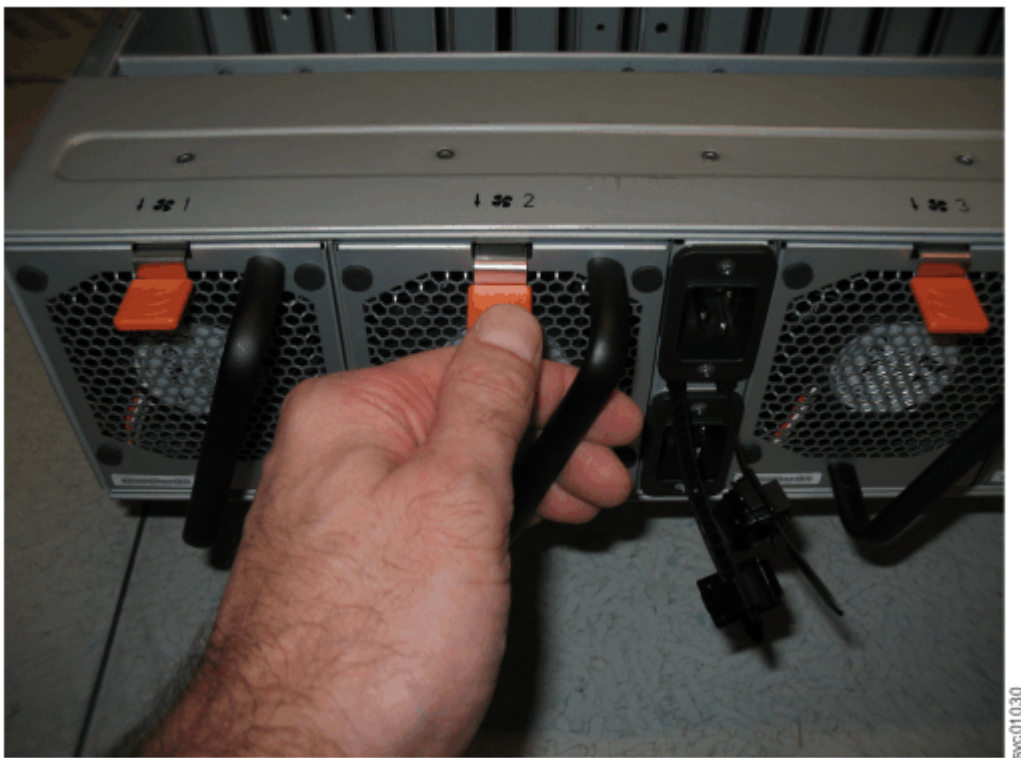

Figure 121. Fan module release tab
2. Press the release tab on the fan module, as Figure 121 on page 102 shows.